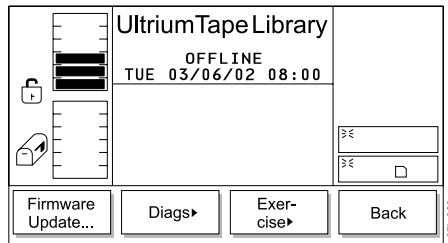

Figure 315. Library Submenu
- Press the button below the **Library** softkey. The Library Submenu displays (see Figure 315).